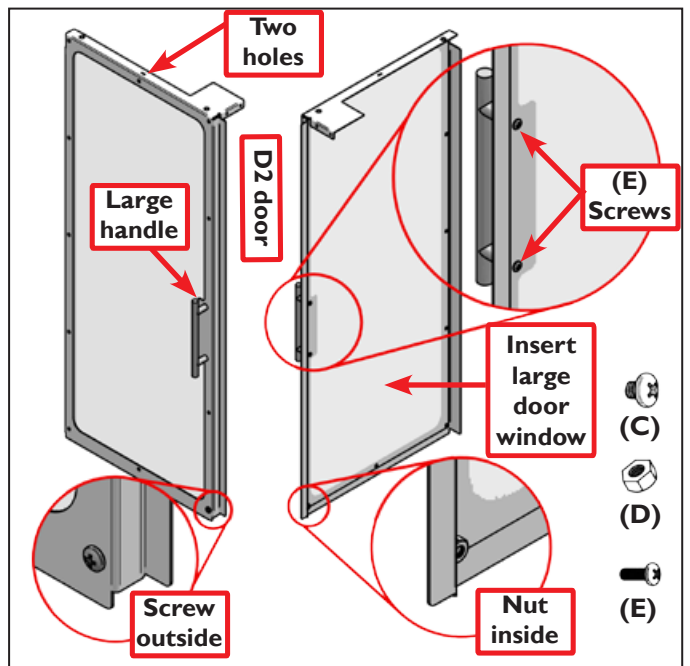

Figure 24
68. Place one Large Door Window (E.12; Tormach PN 34433) inside the D2 Door Frame (E.6) and fasten with (C) screws and (D) nuts as seen in **Figure 24**.